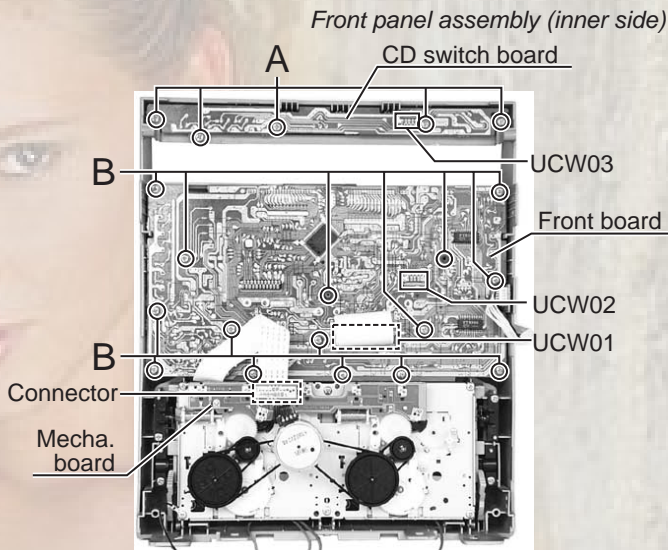

Fig.1
**■ Removing the CD switch board (See Fig.1)**
**■ Removing the front board (See Fig.1 and 2)**